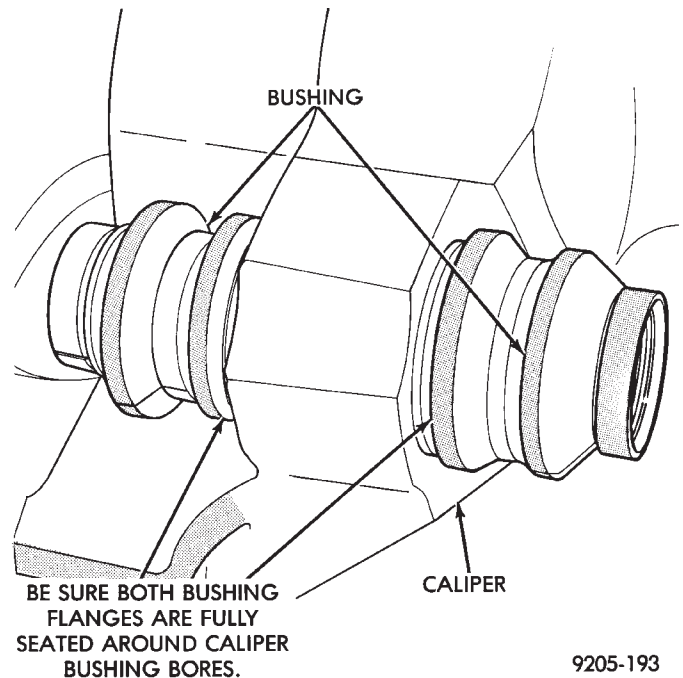

Fig. 6 Bushing Correctly Installed In Caliper
(3) Unfold the bushing using your fingers or a wooden dowel until the bushing is fully seated into the caliper assembly. Flanges should be seated evenly on both sides of the bushing hole in the caliper assembly (Fig. 6).